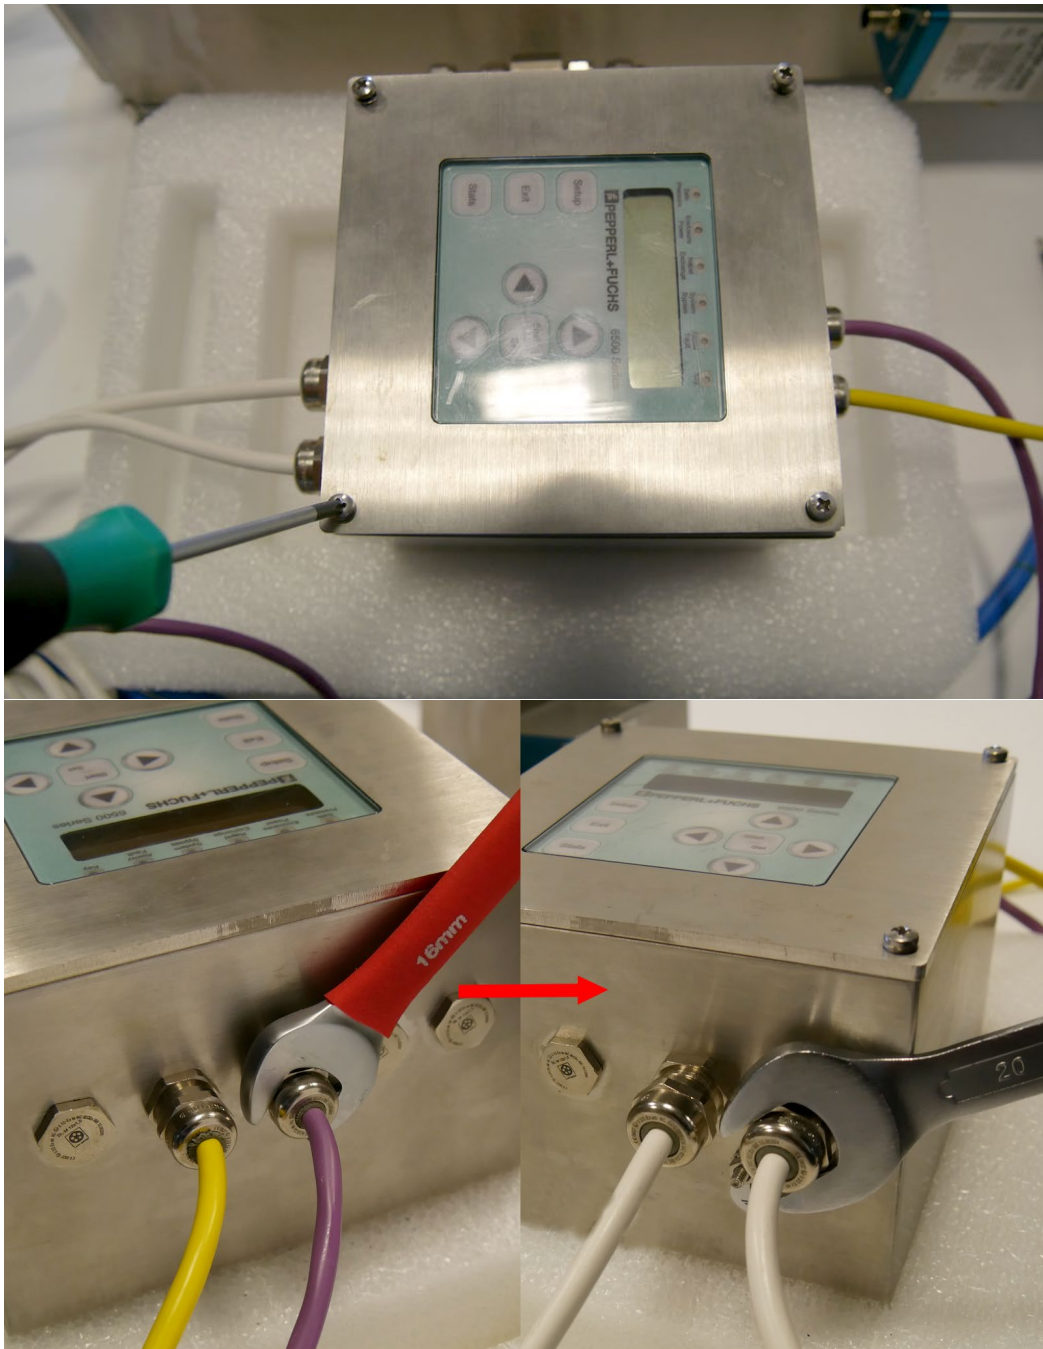
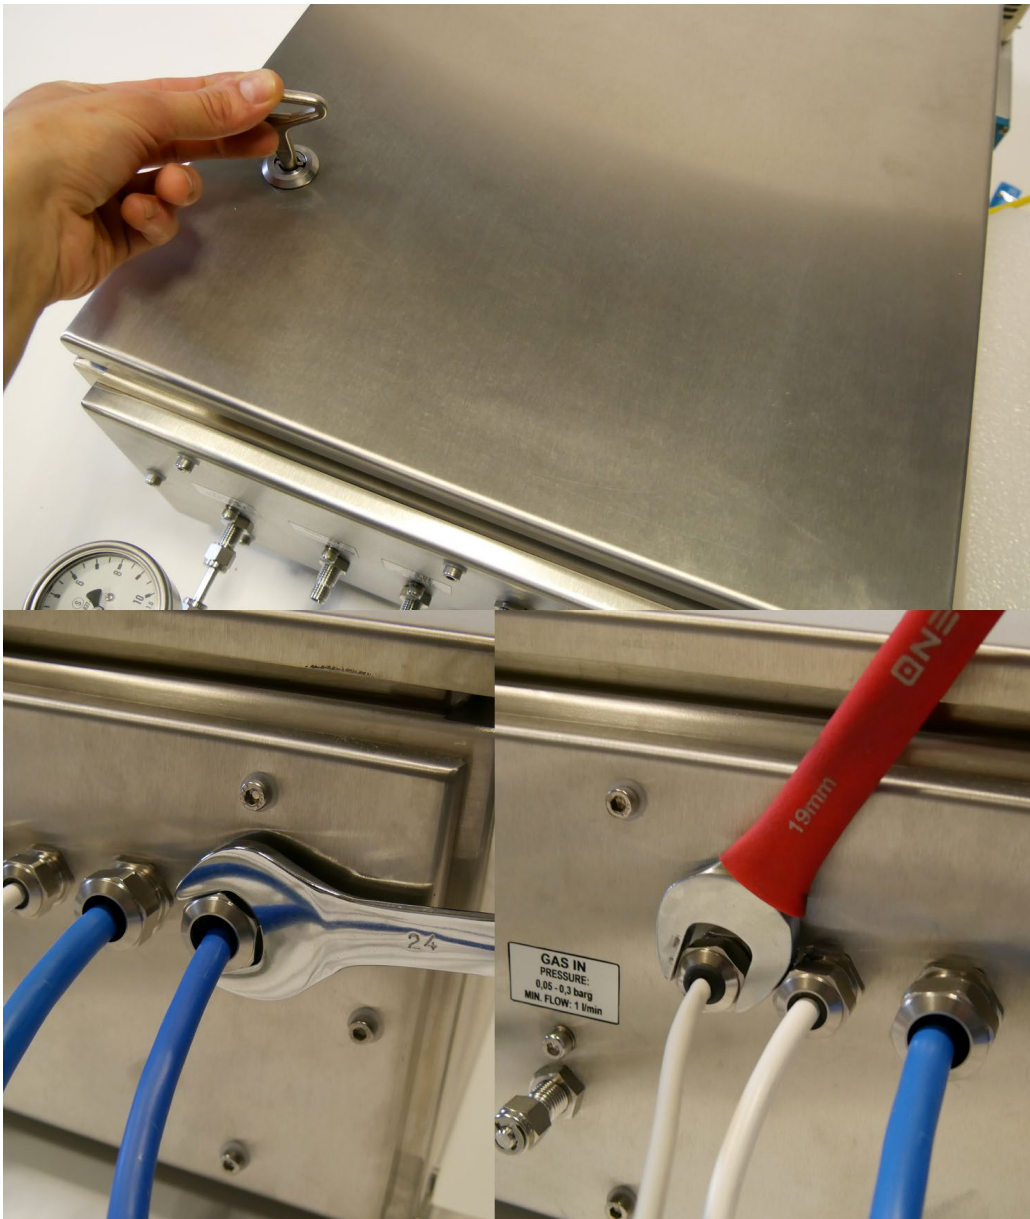

Figure 150. Closing and sealing the controller.
Figure 151. Closing and sealing the analyzer.
8. Close the analyzer and purge controller covers. Make sure all glands and covers are tightened well. Controller and analyzer housings should be sealed before starting (**Figure 150** and **Figure 151**). Use 16mm and 20mm wrenches for sealing controller glands and 19mm and 24mm wrenches for sealing analyzer glands.